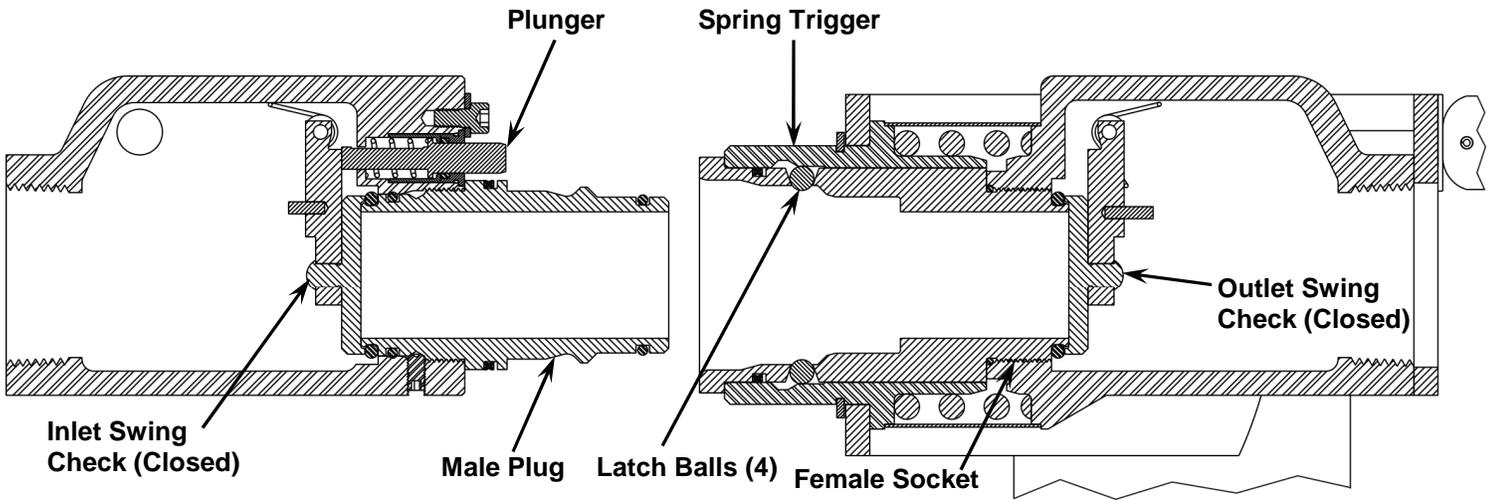

FIGURE 4
2. When fully engaged, the Male Plug ⑧ is secured to the Female Socket ④ by four Latch Balls ⑦. The separation of the Plug from the Socket is accomplished when, and only when, the nurse tank hose becomes taut and is in a straight line pull with the Flo-Max II Coupler.
3. When a separation force is applied to the Male Plug, the Trigger ③ remains stationary since it is attached to the Mounting Bracket ⑨. The Latch Balls, being pulled by the Plug, force the Outlet Body to compress the Trigger Spring ⑥. With about 1/4\" of travel, the Latch Balls are forced into the release groove, allowing a full disconnect. After separation, the Outlet Body will return to the "engaged" position and remain intact in the mounting bracket. The Inlet and Outlet Swing Checks will seal and prevent additional NH₃ release to the atmosphere, as shown in Figure 4.
Operation Instructions (Refer to Figure 4)